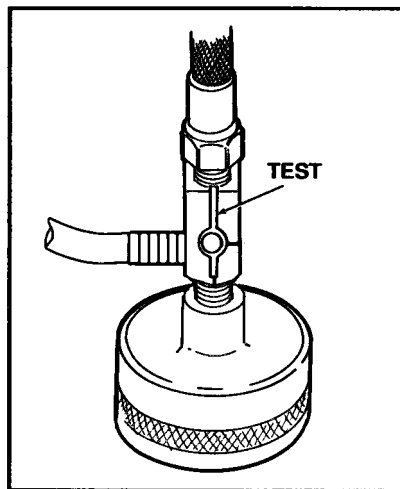

Figure 2.12 Three-Way Valve
- a. Hold the sampler in an upright (vertical) position, turn the three-way valve to the **TEST** position: when the valve arm is positioned at a right angle to the base of the valve (vertical) (Figure 2.12).
- a.** Hold the sampler upright and turn the three-way valve to the **TEST** position (Figure 2.12).